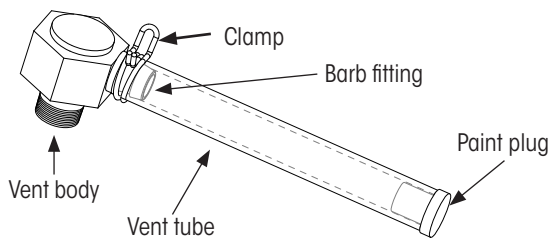
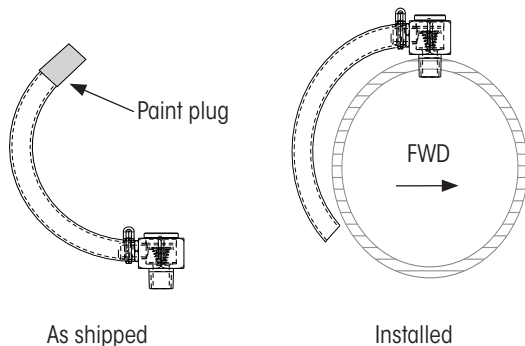

Figure 15: INTRAAX®/VANTRAAX®/ULTRAA-K® axle vent assembly
Figure 16: TRLAXLE axle vent
Perform Step 1 - Step 6 on for all axles wheel-ends. For axle vent installation, refer to \(Figure 16\) AXLE VENT INSTALLATION on page 17.
The High Flow Axle Vent is installed into the pre-drilled hole as shown in Figure 16. Refer to Axle Preparation on page 11 for drilling details.
1. **Insert** the axle vent into the designated hole (Figure 16) and **hand-tighten**.
3. If present, **remove and discard** paint plug, Figure 15 and Figure 16.